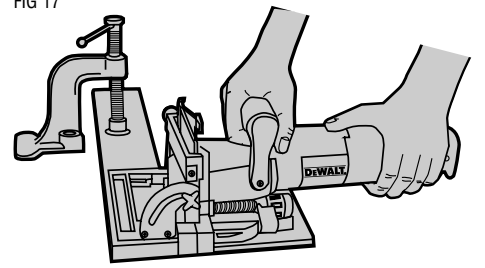

FIG 18
- For stock thicker than 1", you may wish to use double biscuits at each location. Set the height adjustment to allow at least 4.76 mm (3/16") of stock between the biscuit and the edge of the work surface. Make all cuts at this fence setting before readjusting the fence for the lower cuts. Again, there should be at least 4.76 mm (3/16") of stock between the biscuit and the outside wall and between the biscuits themselves (see Figure 18).